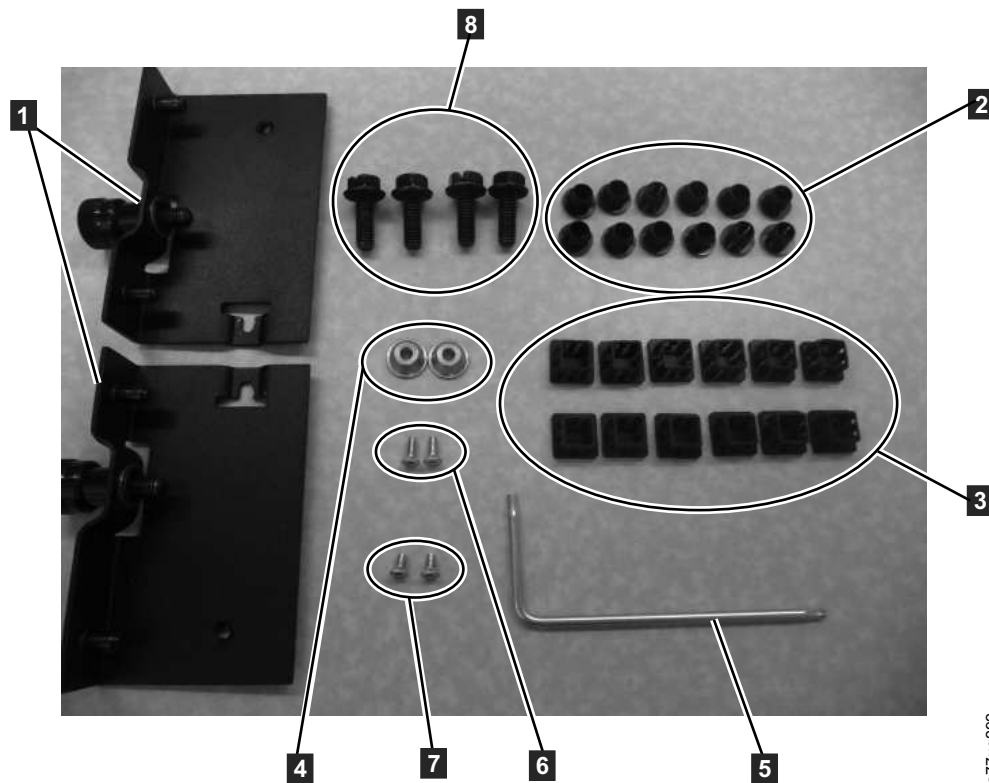

Figure 23. Rack Kit B mounting hardware
- 2 mounting brackets with captive thumb screws (**1** in Figure 23)
- 1 Torx wrench (**5** in Figure 23)